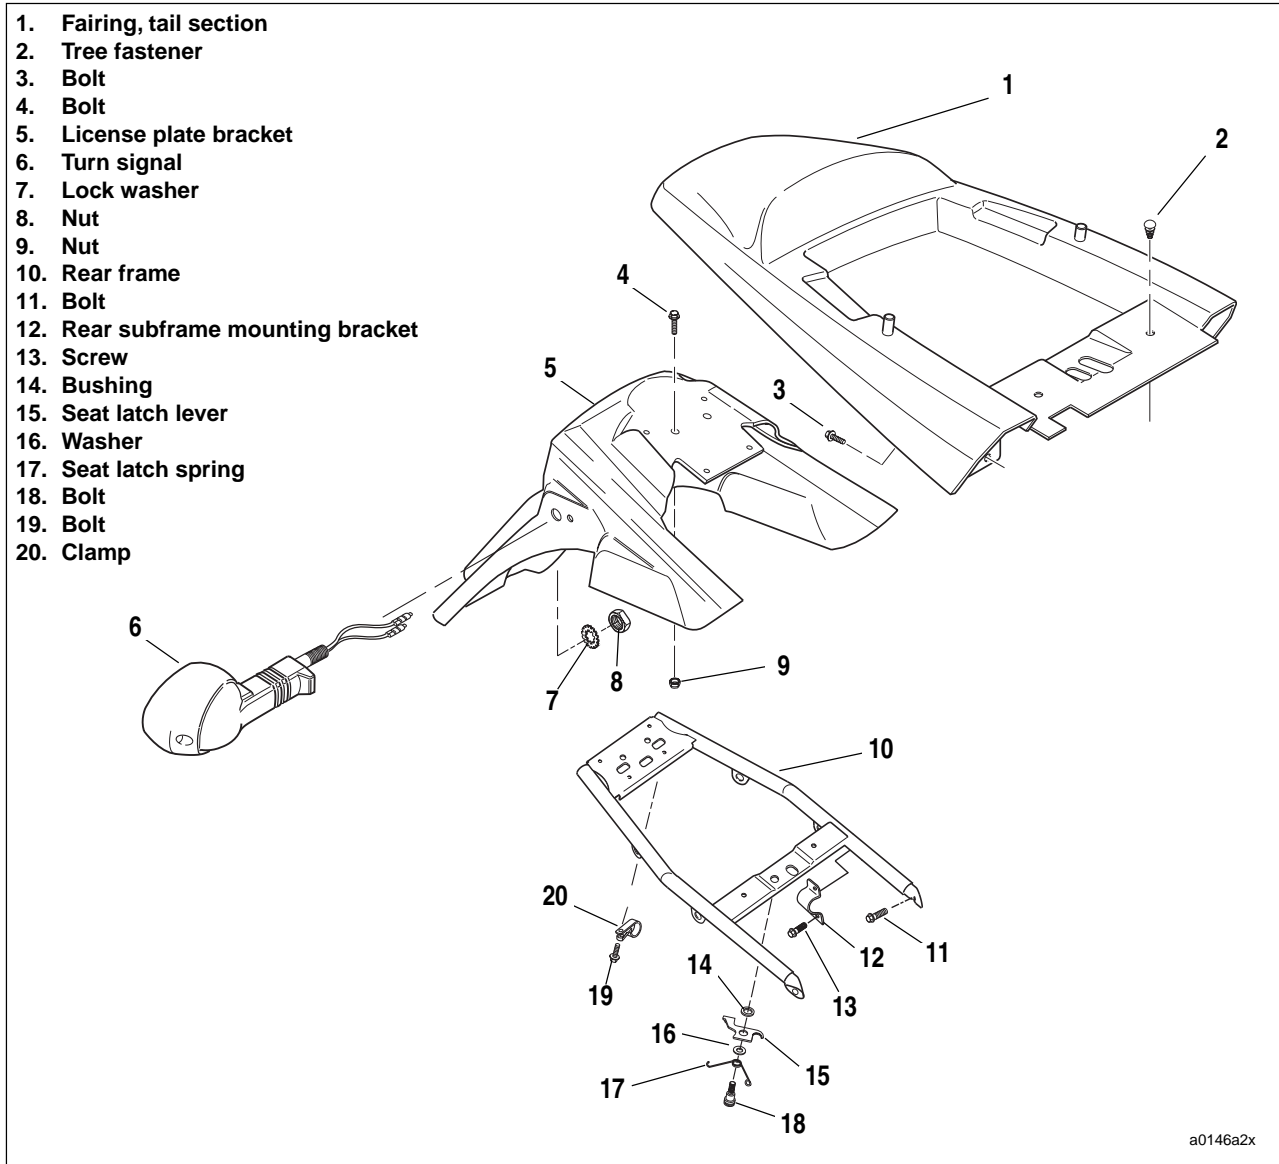

Figure 2-110. Tail Section
2. See Figure 2-110. Remove fasteners and clamp (3, 19 and 20).
3. Remove tree fasteners (2).
4. Remove fairing, tail section (1).
9. Remove nut (8) and lock washer (7).
10. Remove turn signals (6).
3. See Figure 2-110. Remove fasteners (13) and bracket (12).
4. Remove fasteners (11).
5. Slide rear frame assembly (10) out.
1. See Figure 2-110. Slide rear frame assembly (10) into frame.
2. Install fasteners (11).
3. Install brackets (12) and fasteners (13).
1. See Figure 2-110. Install license plate bracket (5) using fasteners (4) and nuts (9) in rear holes.
3. Install turn signals (6) using lock washers (7) and nuts (8).
5. Install tail section (1) using fasteners (3, 19, 20).